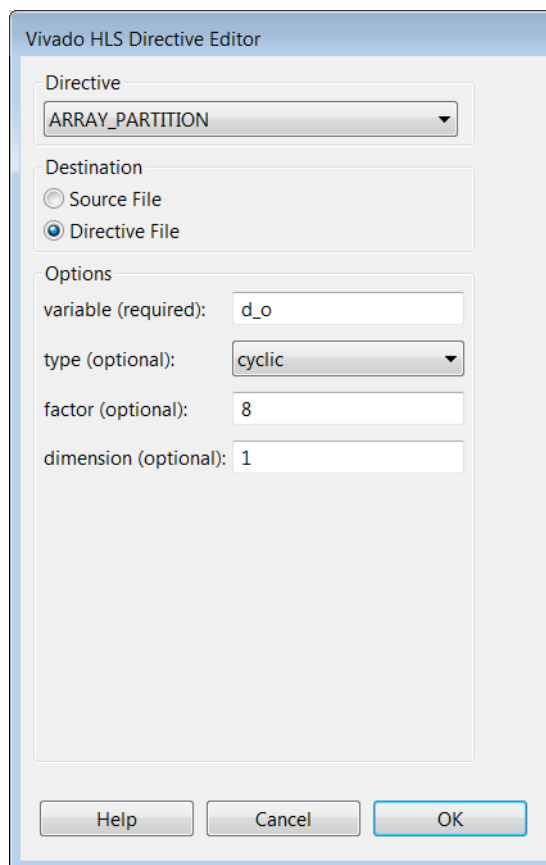

Figure 4-31: Directives Editor for Cyclic Partitioning
- d. With the Directive Editor dialog box filled in as shown in Figure 4-31, click **OK**.